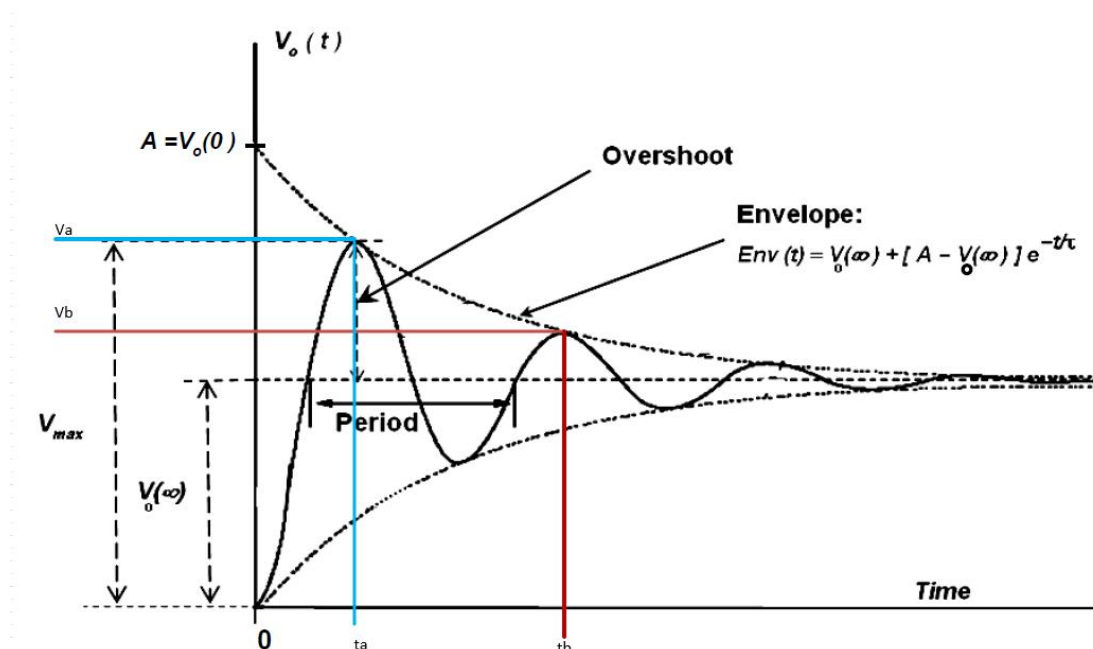

Figure 3.3
2. Use the cursor to measure the decay-envelope time constant (τ), the damping coefficient (α) and the damped frequency (ω_d) as shown in Figure 3.3.